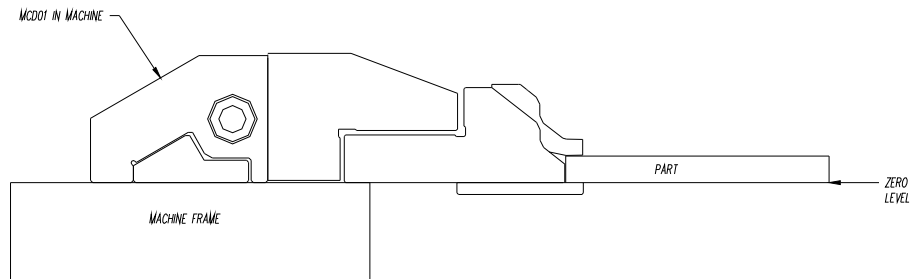

Figure 19
STEP 40. After all adjustments are completed, remove the vertical vise/TD01 and work piece and place them onto the MCD01 in the machine as shown in Fig. 19.